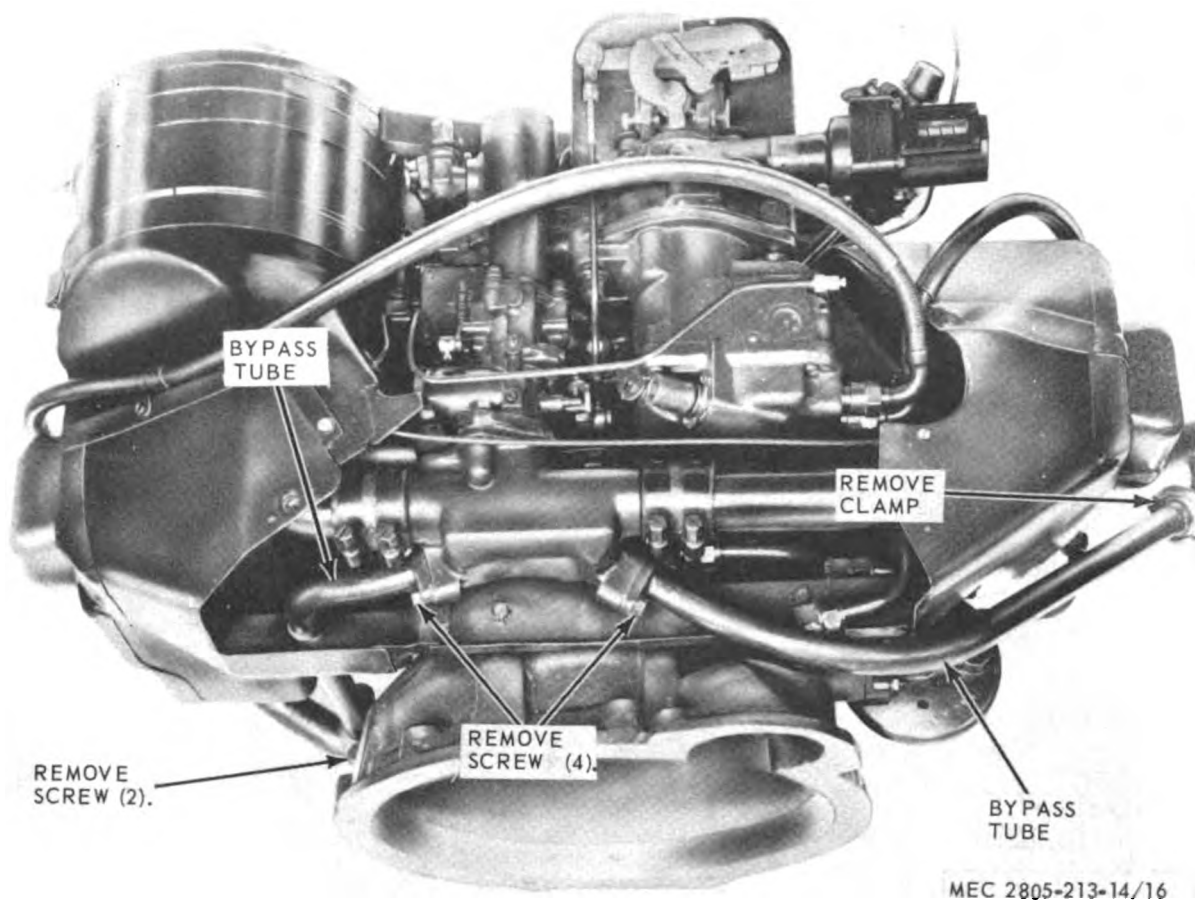

Figure 3-21. Bypass tubes, removal and installation (Model AO42-KM).
a. Removal. (Model AO42-KM). Refer to figure 3-21 and remove the bypass tubes.
e. Installation. (Model AO42-KM). Refer to figure 3-21 and install the bypass tubes.